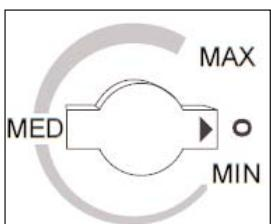

Fig. 2
- To turn off the wine cooler, (no cooling) rotate the control knob to the "0" (off) position. See Fig. 2. Turn the control to the "OFF" (0) position to temporarily disconnect the cooling cycle. When the wine cooler is not to be used for long periods of time, disconnect from power and leave the door partially open.